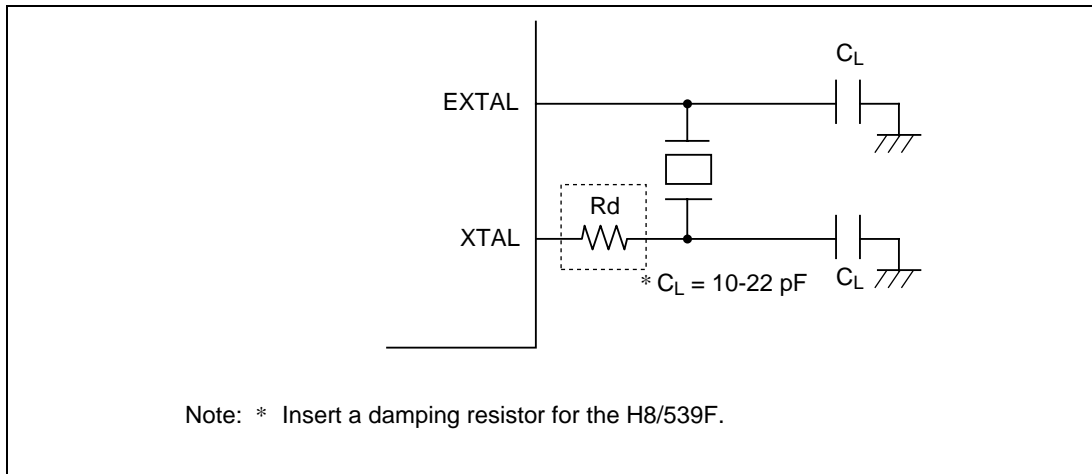

Figure 9-2 Example of Crystal Resonator Connection
(1) Circuit Configuration: A crystal resonator can be connected as in the example in figure 9-2. An AT-cut parallel resonating crystal should be used. For the 1:1 clock pulse generator, insert a damping resistor as listed in table 9-1.